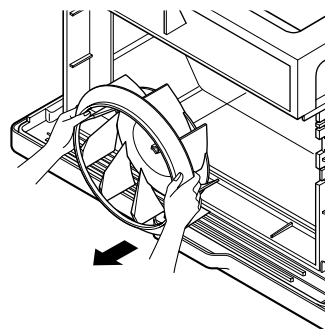

FIG. 7
9. Remove the turbo fan with plier or your hand without touching blades. (See Fig. 7)